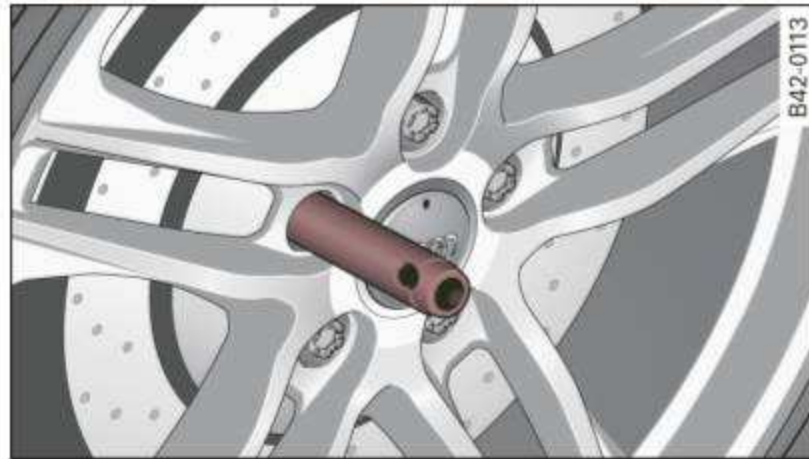

Fig. 135 Wheel change: alignment pin inside the top hole
- Screw the threaded end of the **alignment pin** from the tool kit hand-tight into the now vacant bolt hole ⇒ fig. 135.